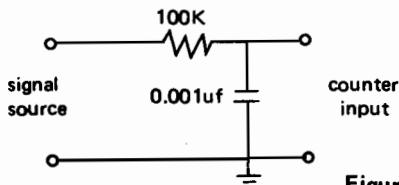

Figure 1
7. Where low frequencies are measured a low pass filter as illustrated in figure 1. can be inserted in the line to attenuate high frequency components which may cause false triggering.